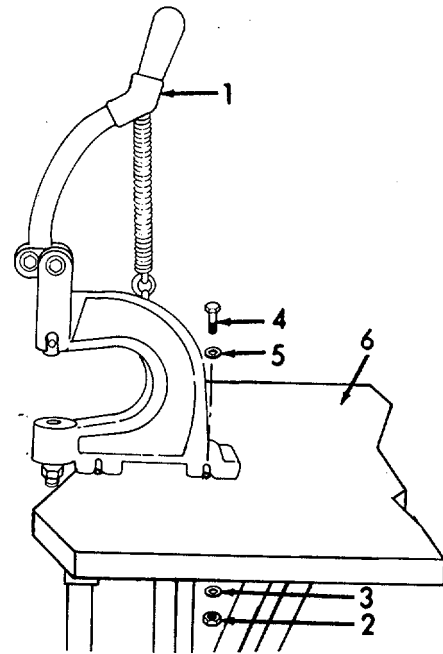

Figure 2-16. Tack-button Attaching Machine, Set-up.
i. Tack-Button Attaching Machine (Refer to Figure 2-16).
- (1) Remove the tack-button attaching machine (1) from the storage box.
- (2) Remove four nuts (2), four washers (3), four bolts (4), and four washers (5) from the folding table assembly (6).
- (3) Install tack-button attaching machine (1) over mounting holes.
- (4) Secure with four washers (5), four bolts (4), four washers (3), and four nuts (2).